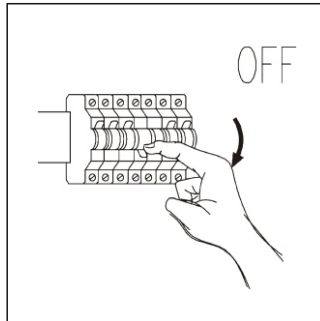

Fig.2
Step 1: Switch off mains supply (Fig.2).